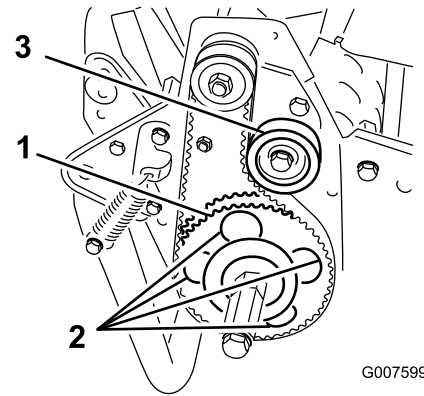

Figure 45
7. Rotate the driven pulley until the holes align with the 4 roller bearing flange screws (Figure 45).
11. Adjust the belt tension and tighten the idler pulley mounting screw (Figure 45).